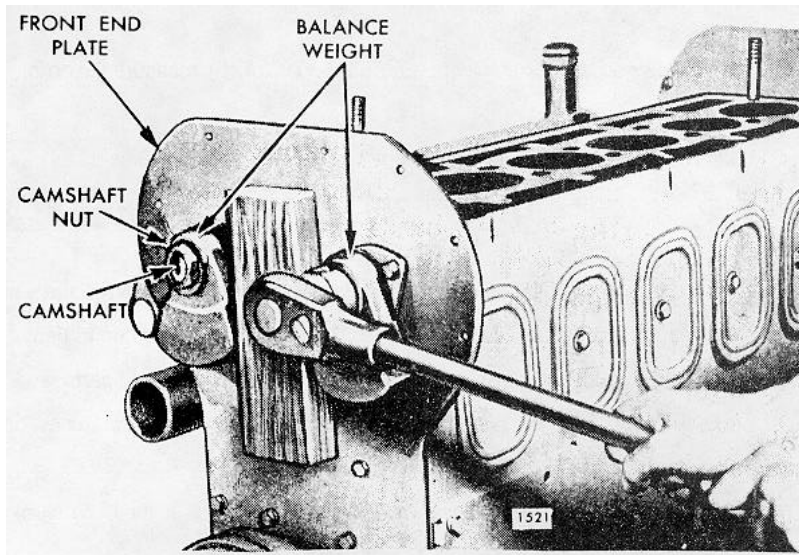

Figure 6-24. Loosening Nut on Camshaft or Balance Shaft.
(1) Remove engine assembly.
(2) Remove cylinder head assembly (para 6-15).
(3) Remove flywheel housing.
(4) Wedge a clean rag between gears and remove gear retaining nut from each shaft.
(5) Remove camshaft and balance shaft balance pulleys using a suitable puller.
(6) Remove front balance weight cover (Figure 6-24) as follows: